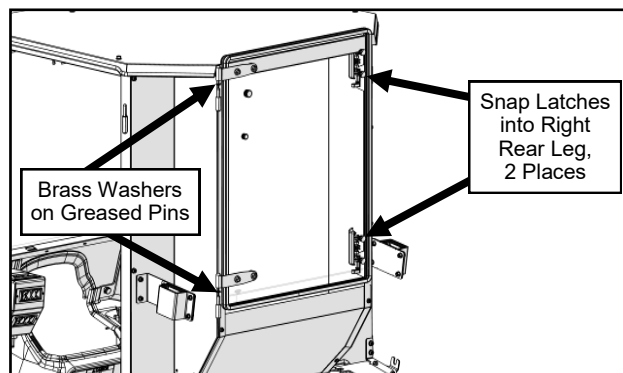

Fig. 15.1 (Hang Rear Window)
15.1 Grease the hinge pins found on the left side rear leg and slide on greased brass washers (one washer per pin). See Figure 15.1.